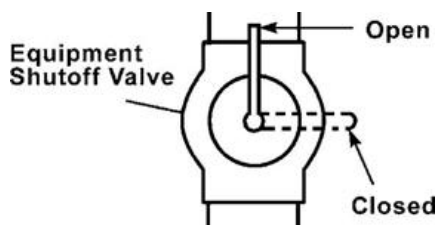

Figure 11 – Equipment Shutoff Valve
1. Close equipment shutoff valve (see Figure 11).
1. Open equipment shutoff valve (see Figure 11).